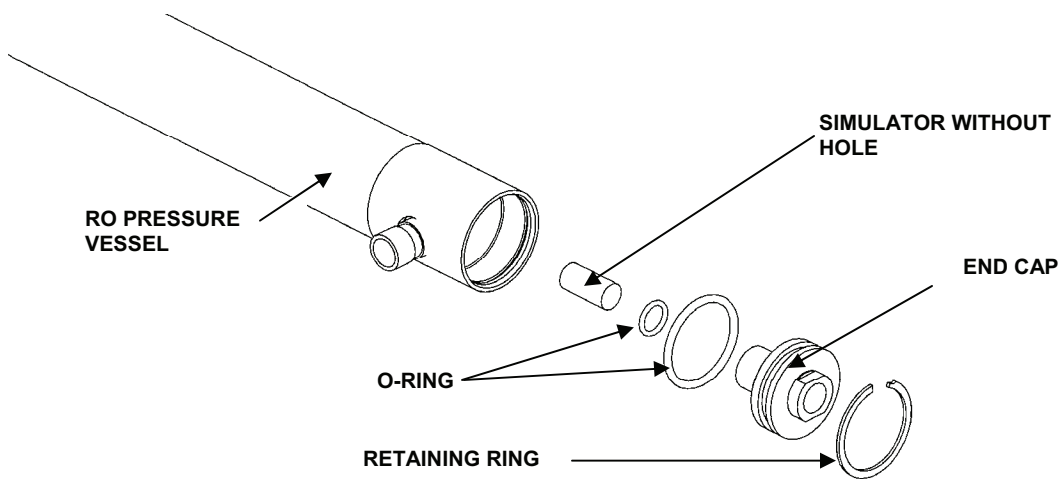

Figure 10. Pressure Vessels 2-7 With Simulator.
2. Pressure vessel numbers (6 and 7) should contain simulators without a hole. Figure 10.